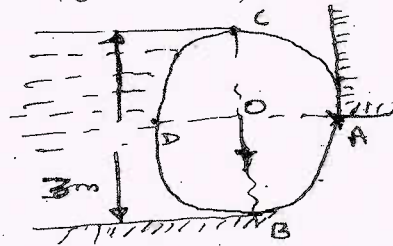

Fig.Q.2(c)
- c. A cylinder 3m diameter and 4m long retains water on one side. The cylinder is supported as shown in Fig.Q.2(c). Determine the horizontal reaction at 'A' and the vertical reaction at 'B'. The cylinder weights 196 kN (Ignore friction). (07 Marks)